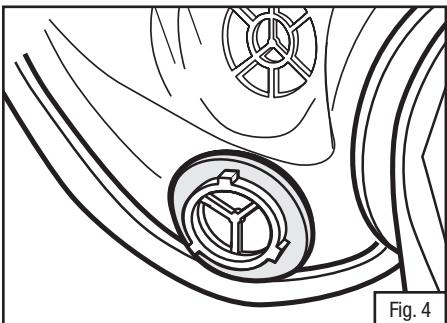

Fig. 4
2. Install new gaskets onto facepiece inhalation port bayonet fittings. Be certain gaskets are in proper position under all three lugs of each bayonet port (Fig. 4).